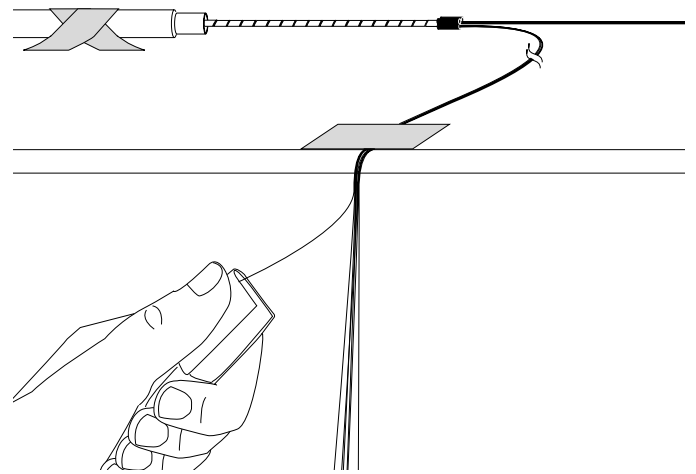

Figure 10
**6.6** Starting just below the heat-shrink, use a d'Gel wipe to thoroughly remove the acrylate matrix which groups the fibers together (Figure 10). Wipe all of the fibers simultaneously. Do NOT wipe above the heat-shrink on the ribbon.